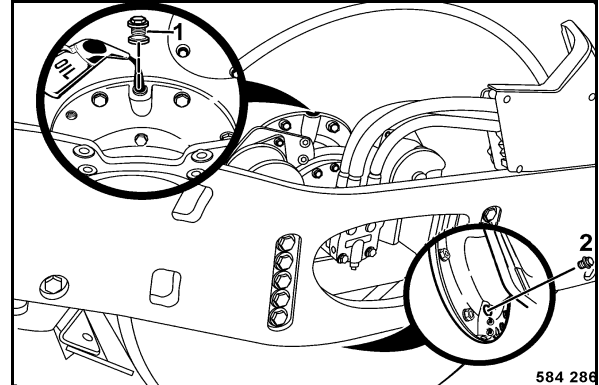

Fig. 172
- Once all oil has been drained off move the drum, until the oil level control plug (2) (Fig. 172) is in lowest position.
- Screw oil level inspection plug (2) and drain and filler plug (1) back in with new seal rings.